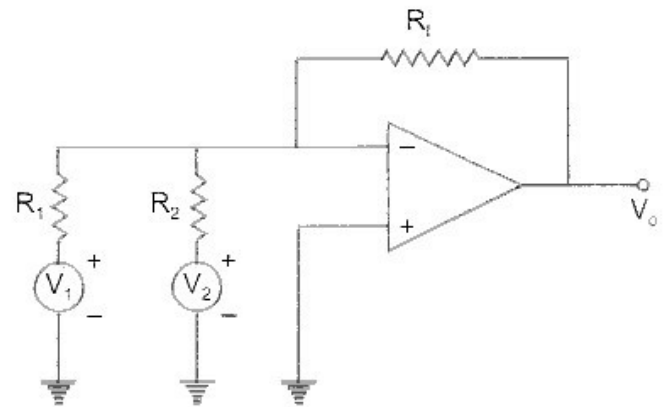

Fig. P. 4.1
- 4.1. (i) Find  $V_o$  in the circuit shown in Fig. P.4.1 if  $R_f = 10 \text{ k}\Omega$ ,  $R_1 = 2 \text{ k}\Omega$  and  $R_2 = 5 \text{ k}\Omega$ .
(ii) Find  $R_1$  and  $R_2$  in Fig. P.4.1 if  $V_o$  is the average of  $V_1$  and  $V_2$  and  $R_f = 10 \text{ k}\Omega$ .